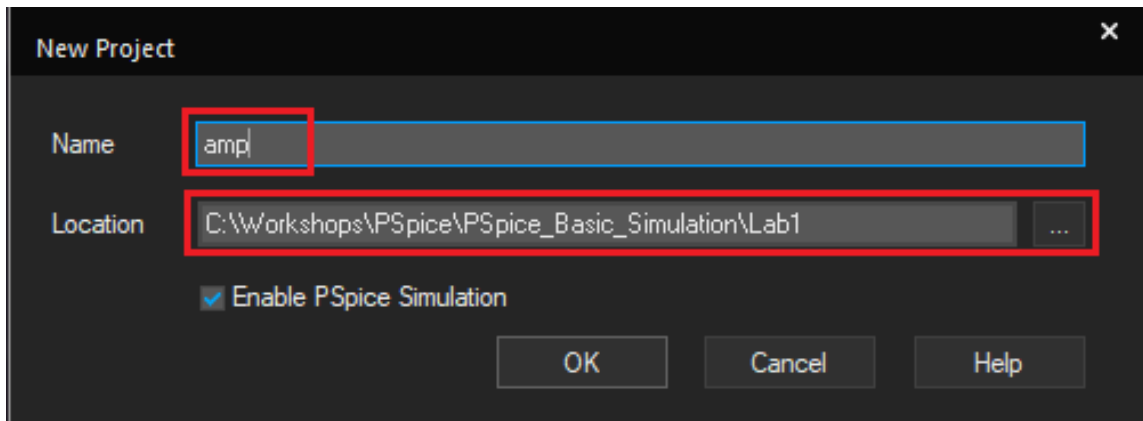

Figure 1-3: Naming the project and setting the location
2. Enter **amp** in the **Name** field, as shown in Figure 1-3.